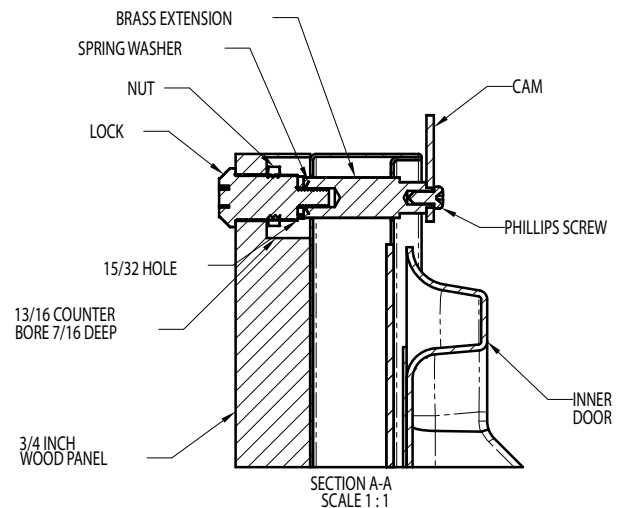

Figure 10
Locate and mark with a pencil the location of the lock hole on the overlay panel, this is the hole in the top corner of the handle side of the door. Remove the clamp and remove the overlay panel from the door. On the backside of the panel where you marked the lock location drill a 1 3/16" (20.5mm) diameter counter bore 7/16" (11.0mm) deep into the overlay panel. Drill a 1 5/32" (12.0mm) diameter hole through the overlay panel centered on the counter bore being careful not to splinter the wood on the face side of the panel. (See Figure 10).
Two (2) lock extensions are supplied with the lock. Use the longer extension for a 3/4" thick overlay panel and the shorter one for a 5/8" thick panel. Assemble the lock extension, cam stop washer, spring washer, and set screw to the lock as shown in Figure 10 and 11. Install this assembly into the overlay panel and secure with the retaining nut using a 15mm socket. Make sure the key slot in the lock is vertical.